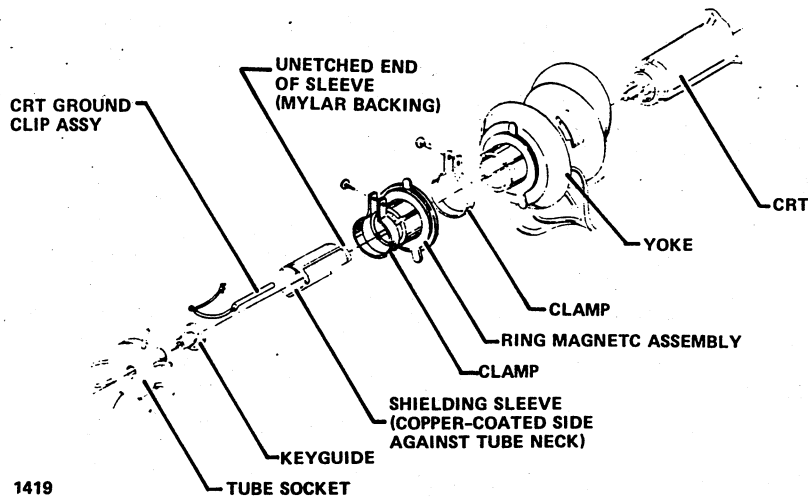

Figure 6-20. CRT Yoke Assembly
5. Using a screwdriver, disconnect the ground clip eyelet frame, loosen the clamp that holds the yoke in place (figure 6-20).
14. Position the shielding sleeve (figure 6-20) on the neck of the CRT with one hand and slip the yoke over the neck and slide it forward over the sleeve. The sleeve should stick out from the back of the yoke when the yoke is positioned forward.